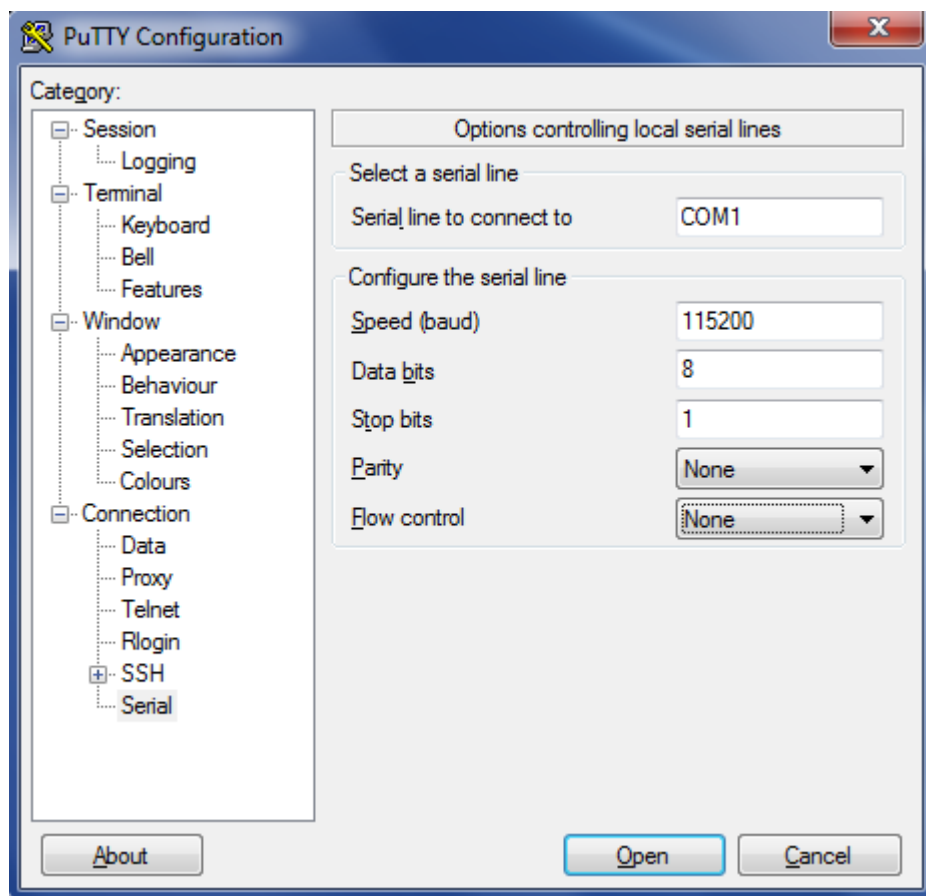

Figure 5.6 PuTTY Configuration Settings
5. On the Putty Configuration dialog, shown in Figure 5.6, verify that **Serial line to connect to** is set to **COM1**. Note: If you are using a serial to USB adapter, this field can be set to a different COM port.